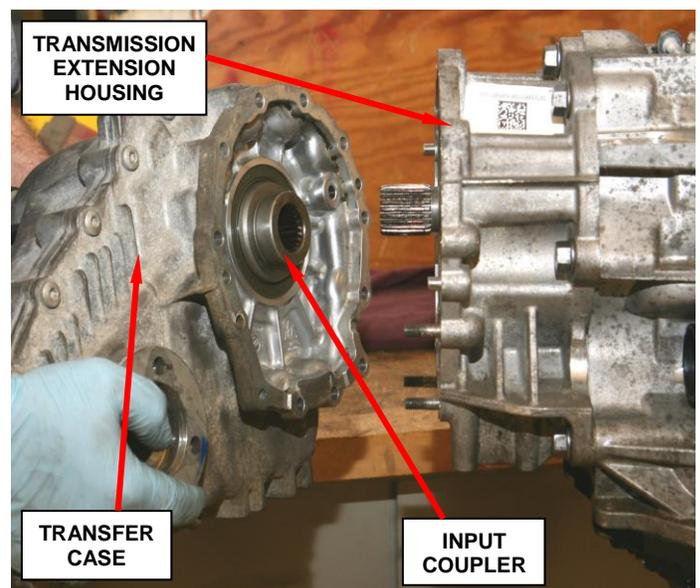

Figure 15 – Remove/Install Transfer Case
21. Remove the transfer case from the back of the transmission (Figure 15).
NOTE: Be sure to remove the broken transmission output shaft from the transfer case input coupler (Figure 15).